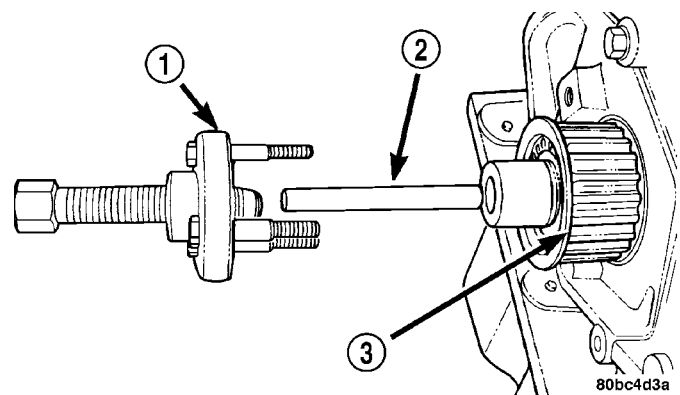

Fig. 63 Crankshaft Sprocket—Removal
(1) Remove the accessory drive belts. (Refer to 7 - COOLING/ACCESSORY DRIVE/DRIVE BELTS - REMOVAL)
(2) Remove the crankshaft vibration damper. (Refer to 9 - ENGINE/ENGINE BLOCK/VIBRATION DAMPER - REMOVAL)
(3) Remove the timing belt. (Refer to 9 - ENGINE/VALVE TIMING/TIMING BELT/CHAIN AND SPROCKETS - REMOVAL)
(4) Remove the crankshaft sprocket using Special Tool 6793 and insert C-4685-C2 (Fig. 63).